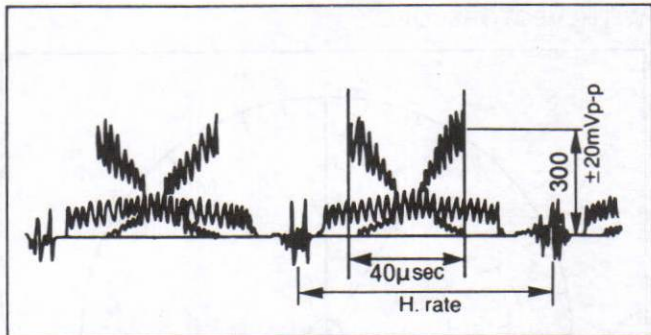

Fig.C12
- (1) Aim the camera at the gray scale chart.
- (2) Connect the scope to TP2 and trigger with Pin 7 of FP306 (H-Rate).
- (3) Adjust the Camera Unit to obtain 40µsec picture frame as shown in Fig. C12.
- (4) Adjust the AGC Control (VR324) so that the signal level is 0.30V  $\pm$  0.02Vp-p.